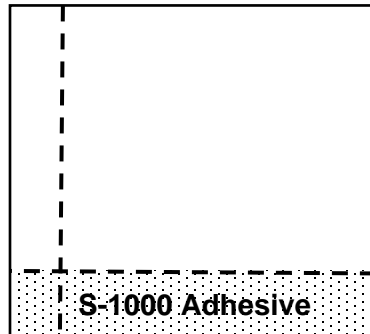

Figure 2: Adhesive Bond
- Apply the Adhesive in 2' or 3' bands (Figure 2) being careful not to cover the chalk lines. Do not apply more adhesive than you can cover within 45 minutes. Allowing a 10-minute open time and fitting the border tile tightly will reduce tile shifting and adhesive oozing. DO NOT allow the adhesive to dry completely.